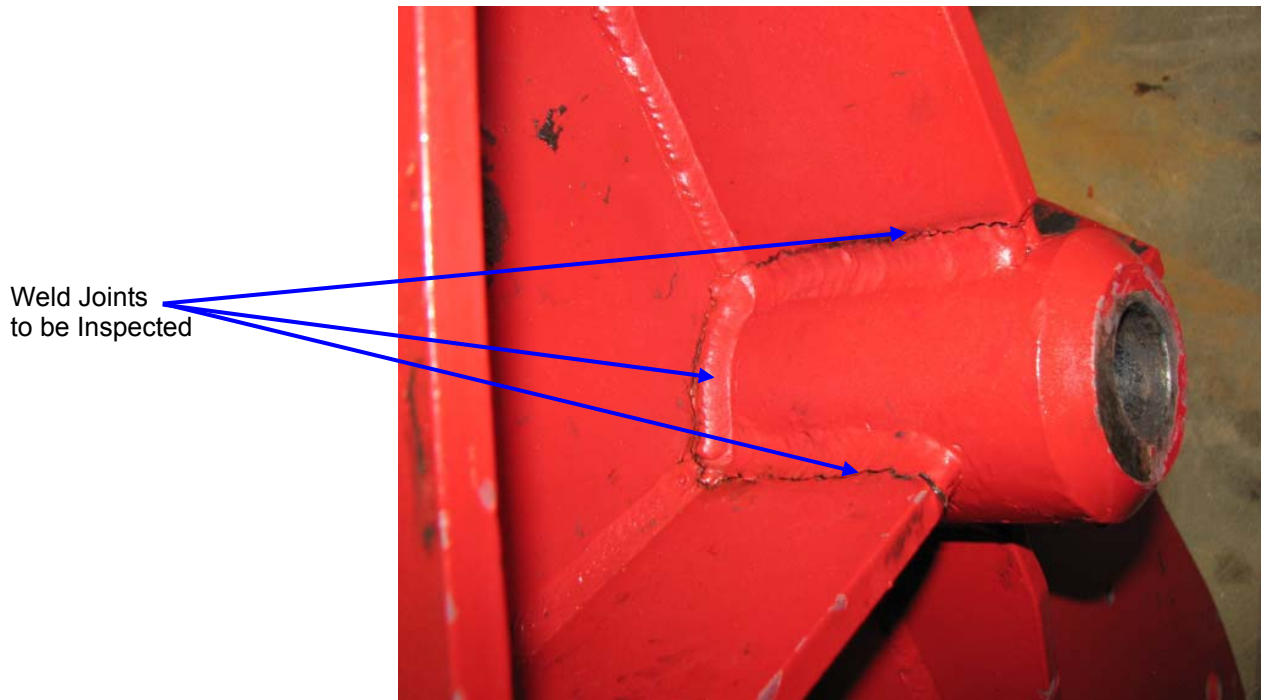

Figure 4
- g. Evidence of cracking at the weld joints between the pin tube and support gussets is indicated in Figures 4 and 5 below.